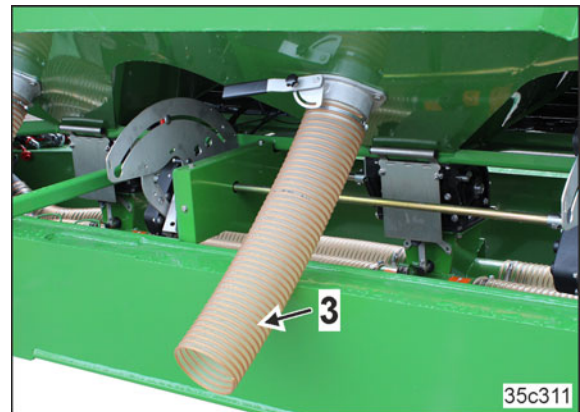

Fig. 58
3. Route the emptying hose (Fig. 58/3) into a collection vessel.